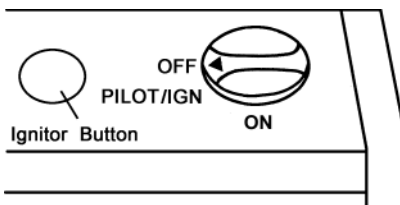

Figure 16 - Control Knob In The OFF Position
3. Push in gas control knob slightly and turn clockwise  to the OFF position. (see Figures 16 & 17)
4. Wait five (5) minutes to clear out any air. Then smell for gas, including near the floor. If you smell gas, STOP! Follow "B" in the safety information on the side of the heater. If you do not smell gas, go to the next step.
5. Push in gas control knob slightly and turn counterclockwise  to "PILOT/IGN" and depress for five(5) seconds